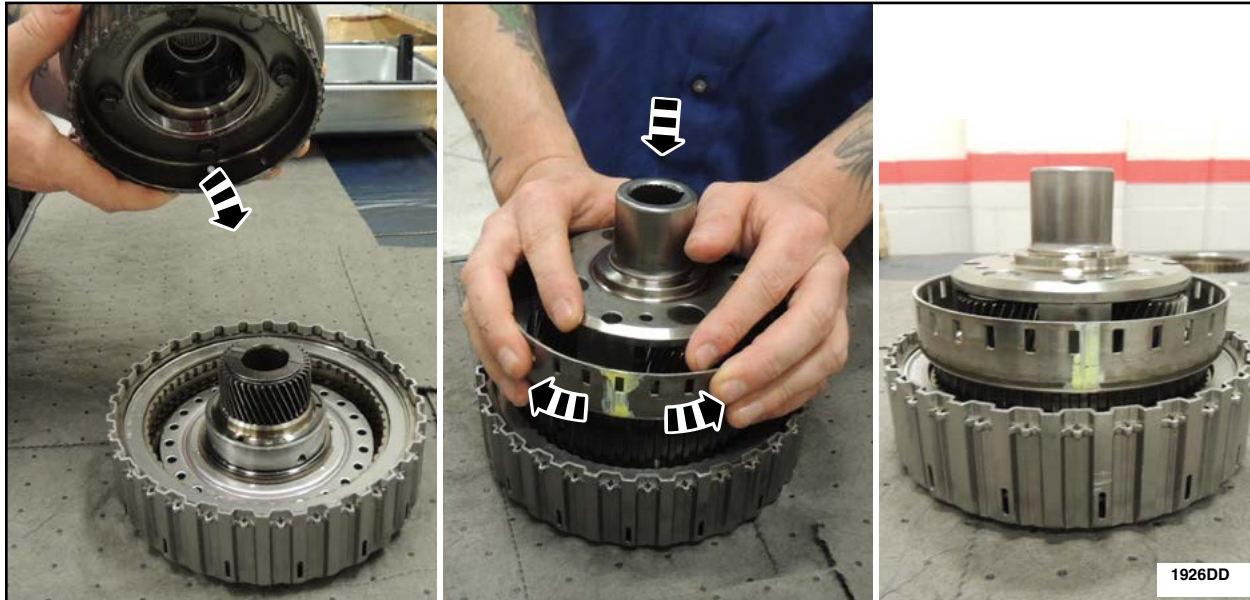

FIGURE 30
28. Install the coast clutch hub assembly into the coast clutch cylinder assembly. See Figure 30.